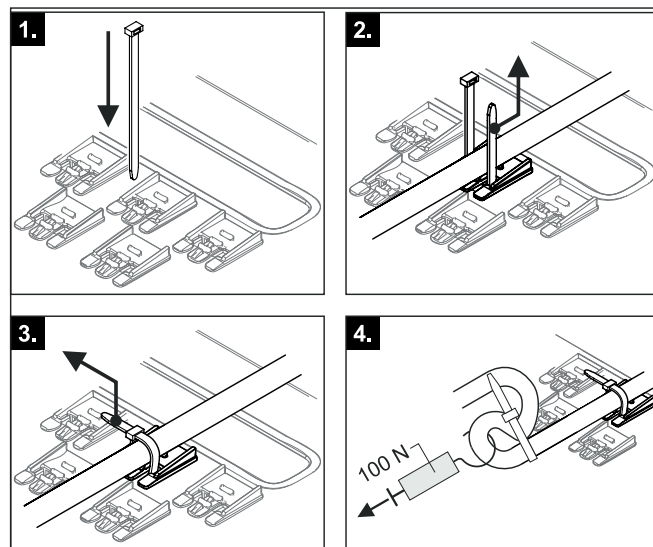

Fig. 4-34 Establishing and checking the strain relief
- 7 Effective strain relief in the controller housing by means of cable ties must be ensured for all cables connected to the HPSU compact (steps 1 – 3, Fig. 4-34).
- 8 Check the holding force of the strain relief (step 4, Fig. 4-34).